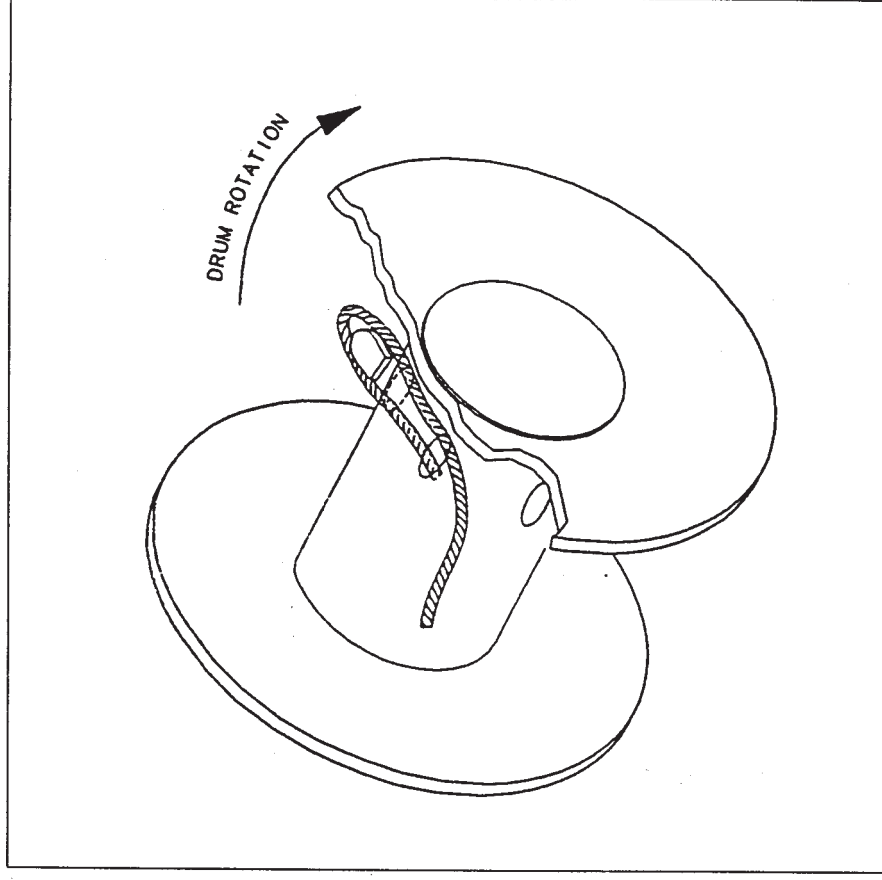

FIG 1
STEP 3: INSERT WIRE ROPE END INTO POCKET OPENING ON WINCH AND THROUGH WEDGE POCKET AS SHOWN IN (FIG 1).